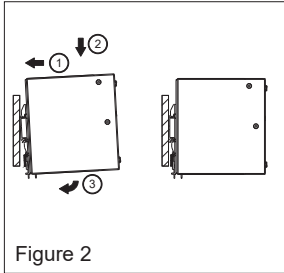
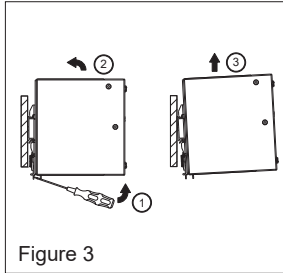

Figure 2
Figure 3
## 3. Mounting and dismounting (Fig. 2, Fig. 3)
1. Tilt the unit slightly upwards and put it onto the DIN rail. Snap on the DIN rail as shown in Fig. 2.
5. To uninstall, pull or slide down the latch as shown in Fig. 3. Then, slide the PSU in the opposite direction, release the latch and pull out the PSU from the rail.